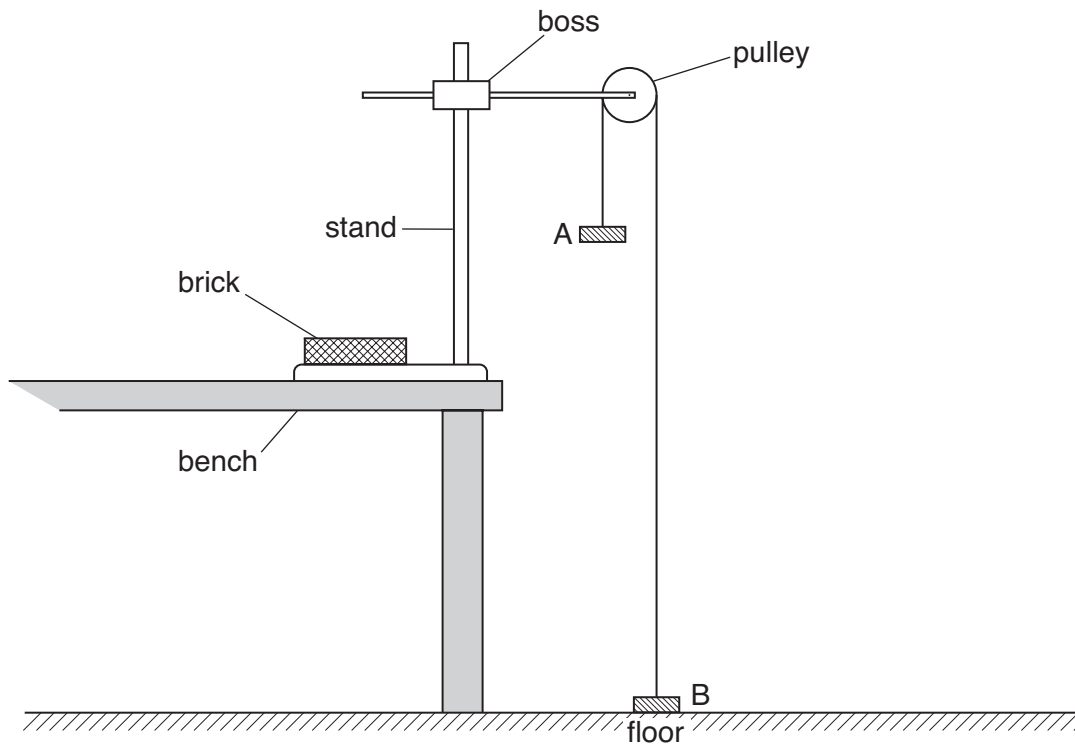

Fig. 2.2
- (iii) The pulley wheel may be of any type. It must be mounted or suspended securely, which may require the use of a stand, boss and clamp, as shown in Fig 2.2.